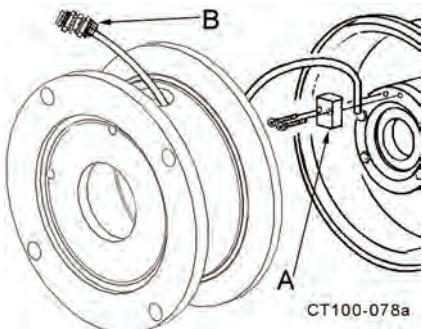

Figure 20 - Cascade System Installation
When this option is ordered, a fitting assembly (Figure 20, item A) is supplied for directing a flow of water onto the backplate/seal area.
- The connection (Figure 20, item B) is 1/4 inch O.D. tubing.